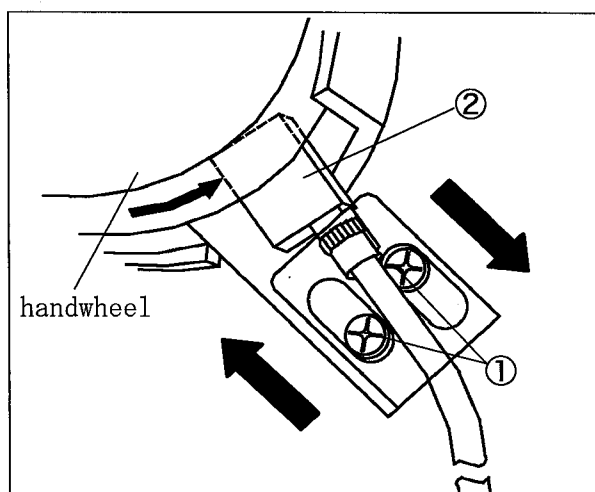

Fig. 8
- If the needle stops after the highest position, move the synchronizer ② to the right. (Fig. 8)